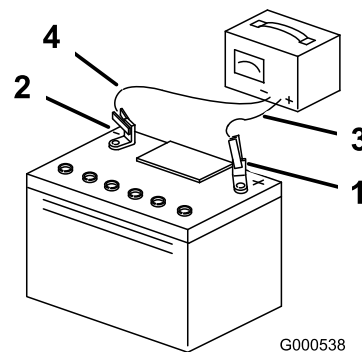

Figure 46
3. When the battery is fully charged, unplug the charger from the electrical outlet, then disconnect the charger leads from the battery posts (Figure 46).